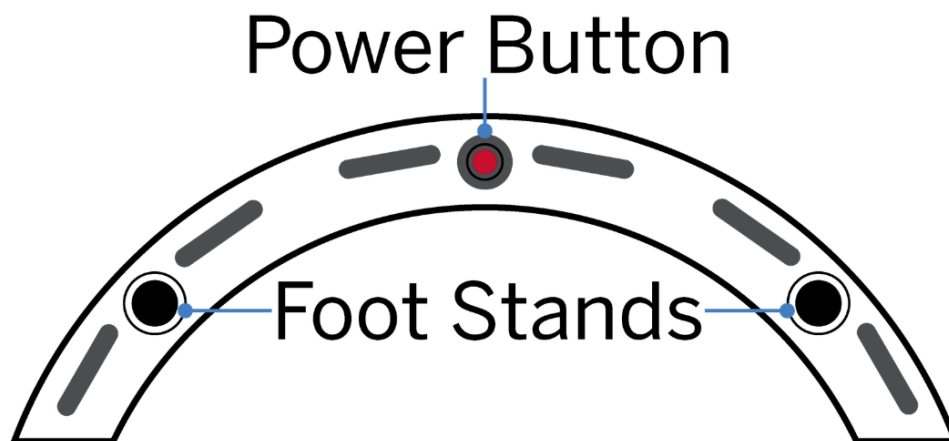

Fig 11
- To charge Chef, turn on the power switch on the bottom of the unit (Fig 11), connect the power supply to the Charger Key Adapter, insert the Charger Key Adapter into Chef, then plug the power supply into a wall outlet.